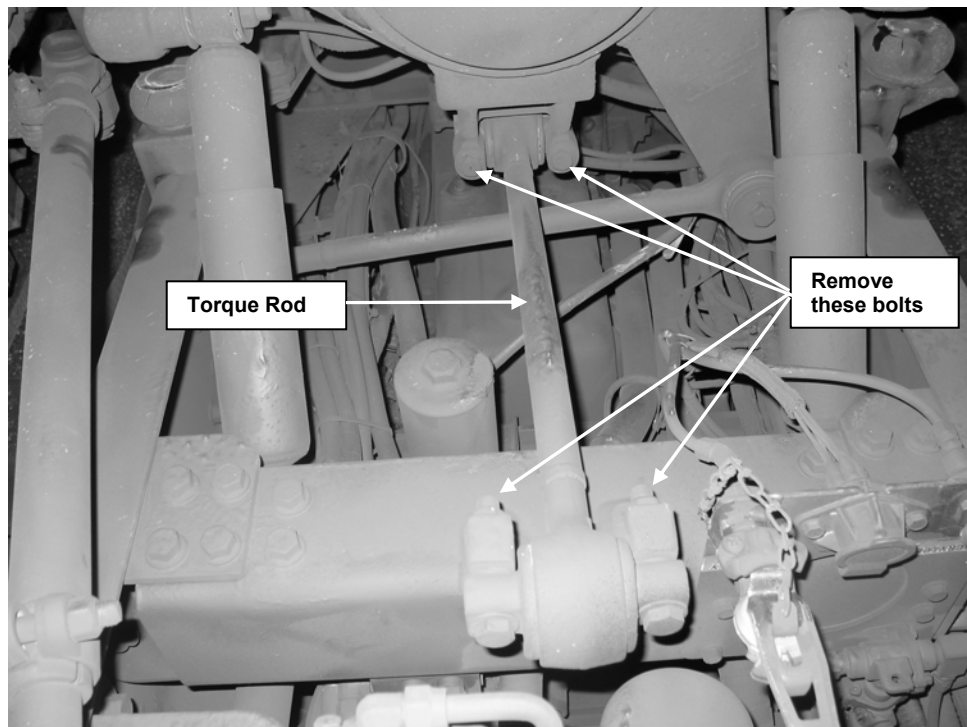

Figure 13. Removal of the Torque Rod.
- w) Remove the Torque Rod (see Figure 13) by disconnecting two bolts located at both ends of the Rod.